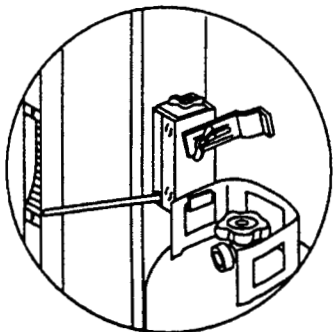

Figure 4
- a) Turn the LP tank, so the opening of the valve is either to the front, side or rear of the Weber Genesis Gas Barbecue. Lift and hook the tank onto the tank scale. Figure 4.